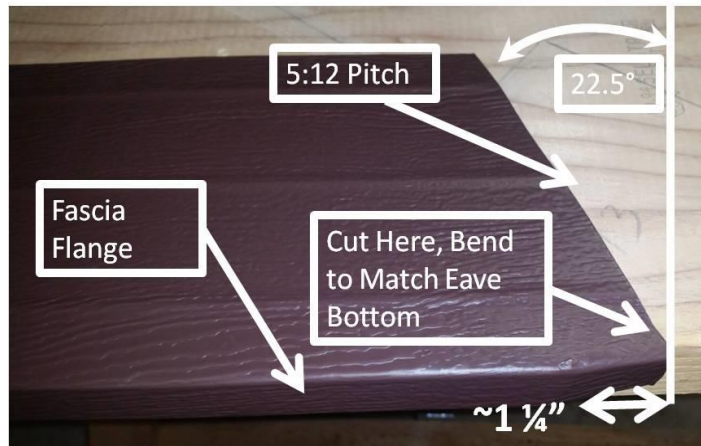

Figure 11-14. Eave End Gable Fascia.
9. Cut the fascia on this line; once installed, the cut edge will be vertical and will match the eave fascia corner. For reference, the blue scale indicates degrees; a 5:12 pitch aligns with 22.5°. Figure 11-14 shows the resulting piece after being cut to the correct angle.